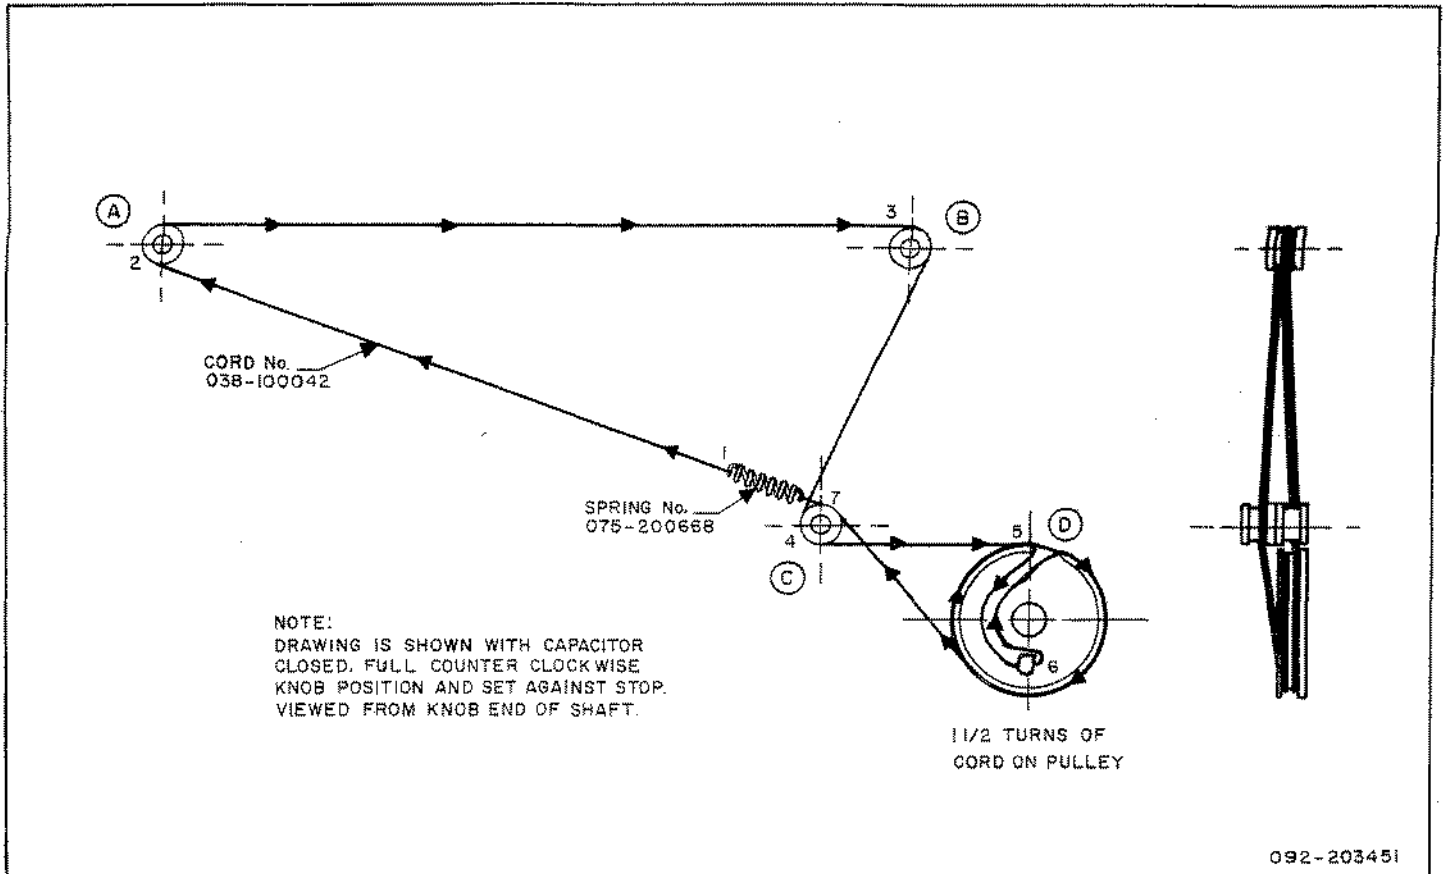

Figure 8. Dial Scale Stringing Diagram.
D. Re-string the dial cord as follows (Figure 8):
1. Attach the end of the cord to the spring (1) and proceed under and around wheel A (2). Proceed clockwise around wheel B (3) down behind wheel C (4).
2. Continue down through the wheel slot of wheel D (5). Proceed under the tab (6) up and out of the wheel slot.
3. Complete 1-1/2 turns of cord on wheel D and proceed up and around wheel C (7).